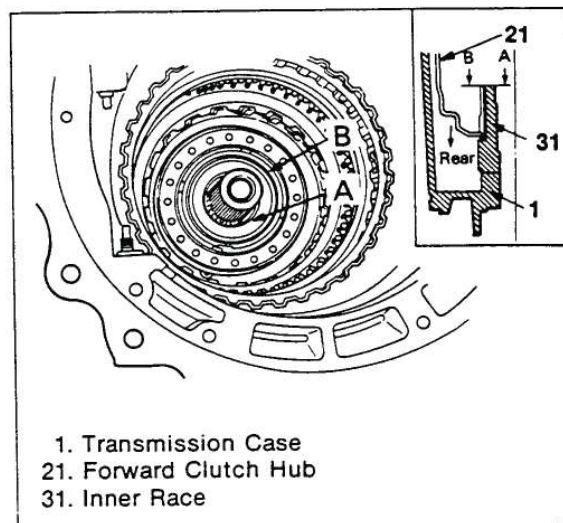

Figure 255. Forward Clutch Assembly Inspection
! Important (Figure 255)
2. Push the forward clutch assembly in deeply so the inner race front (A) shows 0.5 – 1.0 mm (0.02 – 0.04 in) from the end of the clutch assembly inner drum (B) (figure 255).